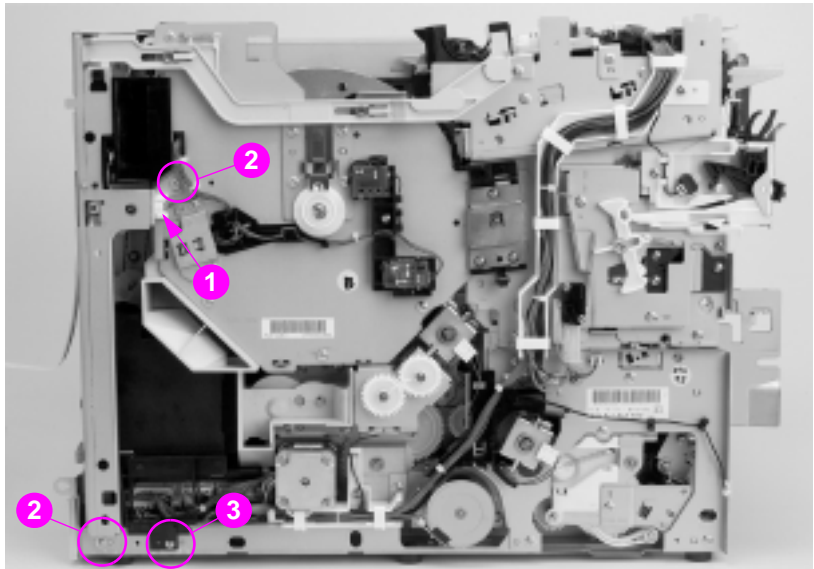
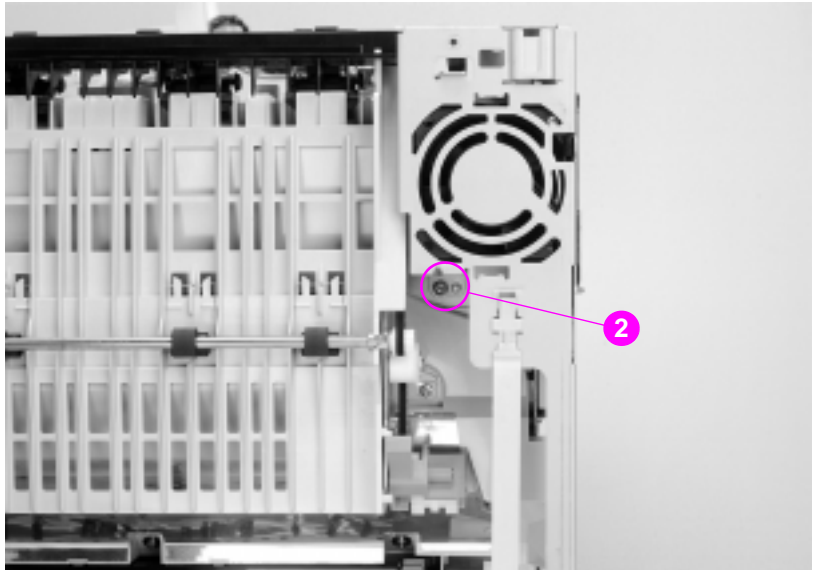

Figure 6-40 Paper feed PCB removal and replacement (1 of 3)
Figure 6-41 Paper feed PCB removal and replacement (2 of 3)
- 5 Disconnect the fan connector as shown in Figure 6-40 (callout 1).
- 6 Remove the three screws from the left rear sheet metal fan cover as shown in Figure 6-40 and Figure 6-41 (callout 2).
- 8 Remove the screw in the black plastic cover (Figure 6-40, callout 3).